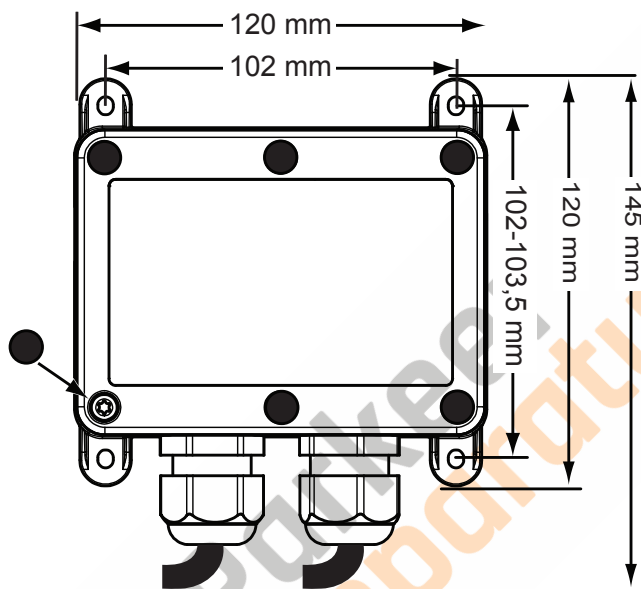

Figure 11. Receiver drill measure
1. Drill 4 holes (for measures see Figure 11).